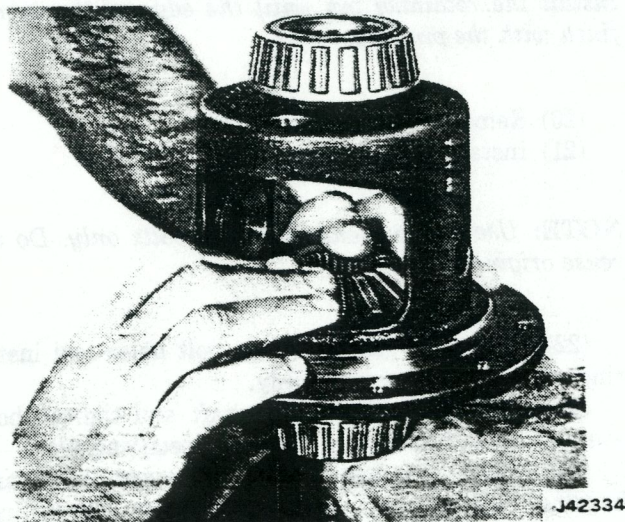

Fig. 2F-71 Mounting Differential Case on Axle Shaft
- (1) Lubricate all differential components with Jeep axle lubricant or equivalent marked SAE 85W-90, GL-5.
- (2) Assemble clutch packs. Install plates and discs in same position as when removed regardless of whether they are replacement or original parts.
- (3) Install clutch retainer clips on ears of clutch plates. Be sure clutch packs are completely assembled and seated on ears of plates.
- (4) Install clutch packs on differential side gears and install assembly in case.
**NOTE:** Be sure clutch pack stays assembled on side gear splines and that retainer clips are completely seated in case pockets. To prevent pack from falling out of case, it will be necessary to hold them in place by hand while mounting case on axle shaft (fig. 2F-71).
- (5) Mount case assembly on axle shaft (fig. 2F-72).